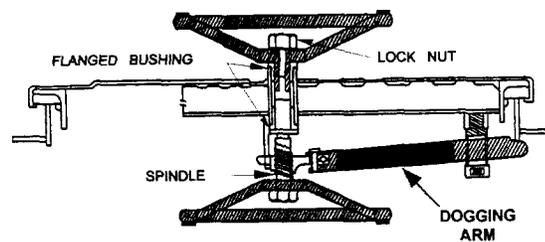

Figure 2-30. Dogging Arm Assembly
- e. Standing below the scuttle, lower the cover and dog it down. Grasp and attempt to wiggle each dogging arm. If one or more of the dogging arms move, tighten the dog adjustment bolt on the loose arm(s). Dog adjustment bolts have a locking device that consists of a small nylon plug pressed into a hole in the body of the bolt. The locking device prevents the adjustment bolt from backing out after adjustment of the dogging arm. Inspect each adjustment bolt for wear by trying to tighten it by hand. If the bolt screws in all the way by hand, it is worn and must be replaced. Push each dogging arm in toward the scuttle. If it does not return to position, the spring inside the housing which holds the dog must be replaced. Dogging arm assemblies are the same for raised and flushed scuttles. See figure 2-30.